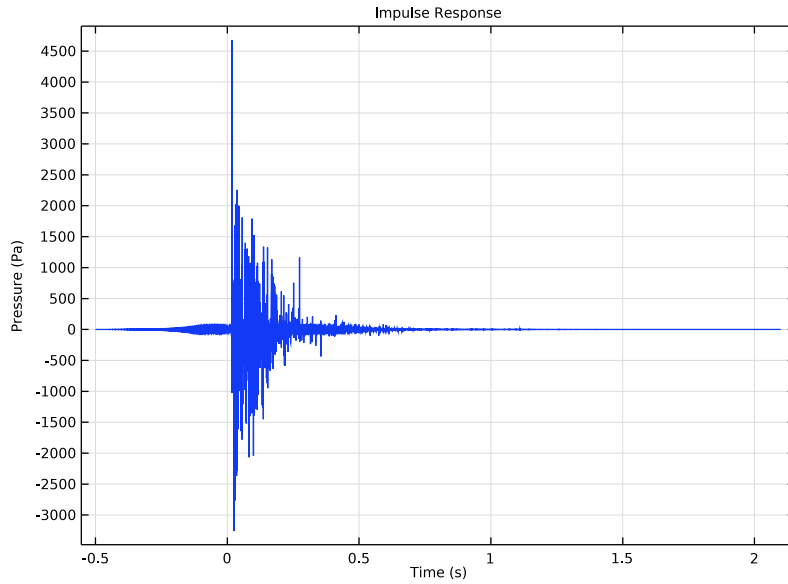
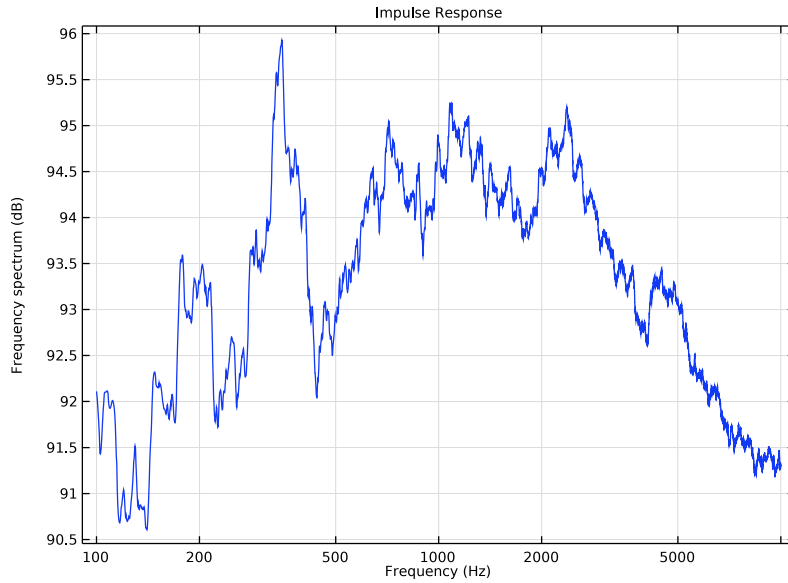

Figure 4: Room impulse response computed at the receiver location.
Figure 5: FFT of the room impulse response (1/3-octave running average).
The temporal impulse response (IR) for the source and receiver configuration used in the model is depicted in Figure 4. The frequency domain (FFT) of the IR is depicted in Figure 5. The curve is smoothed with a 1/3-octave running average.